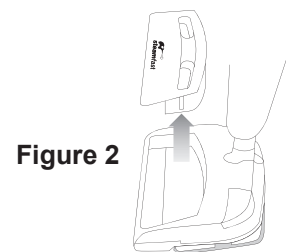

Figure 2
1. Remove Dust Bin by taking hold of the two recessed areas and pulling up, releasing Dust Bin from the unit (Figure 2).